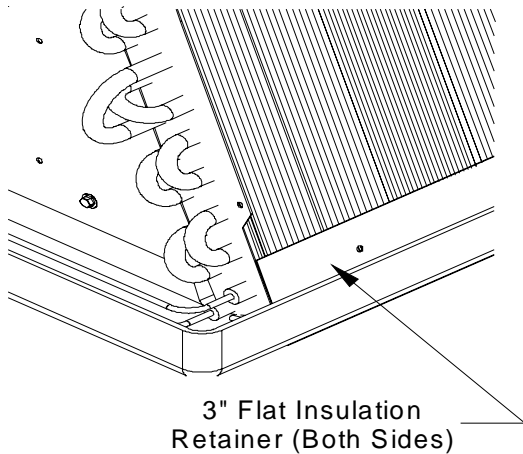

Figure 5
10. To prevent possible condensate "blow off" the insulation retainers are to be laid into the evaporator coil pan as shown in **Figure 5**.